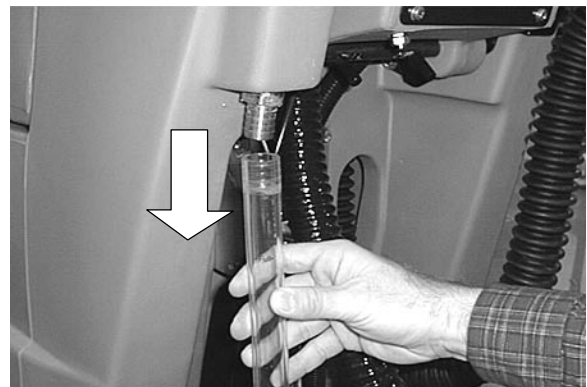

FIG. 21
1. Pull clear hose off hose barb at rear of machine and drain solution into floor drain or bucket (*Figure 21*).